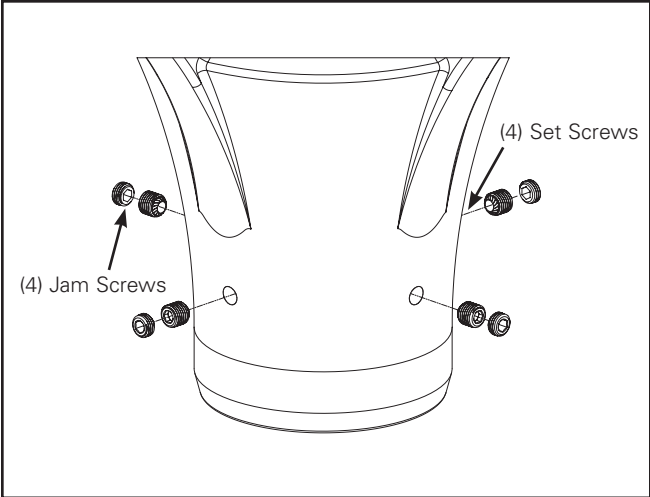

Figure 4.
- 6a. Install four 3/8 - 24 x .375" set screws and tighten to 160 in-lbs. (Figure 4)
- 7a. Install four 3/8 - 24 x .3185" jam set screws and tighten to 100 in-lbs. (Figure 4)